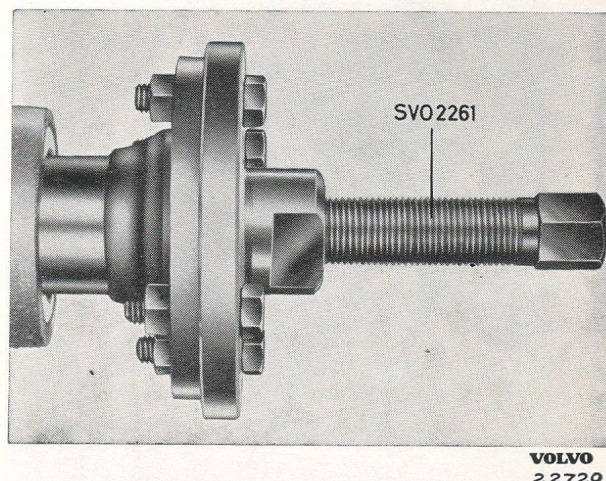
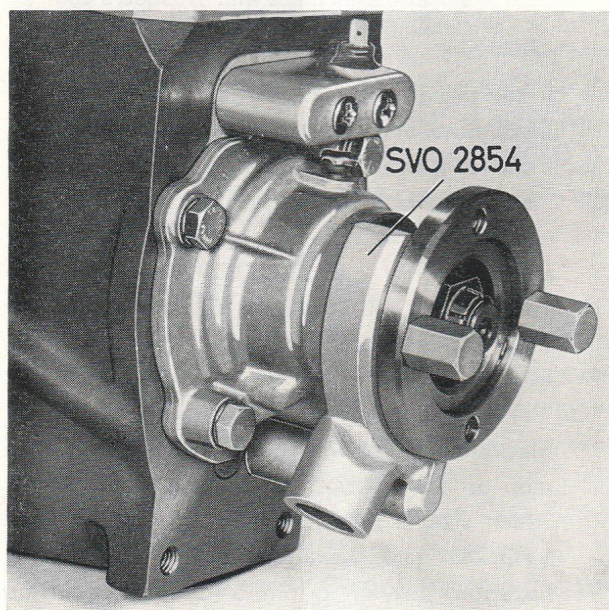

Fig. 16. Removing the yoke (flange)
Fig. 15. Counterhold for yoke (flange)
1. Carry out operations 1—4 (120) and 1—5 (140) under the heading "Removing" as far as necessary.
2. Slacken the yoke (flange) nut. Use SVO 2854 as a counterhold, see Fig. 15. Pull off the yoke (flange). Use puller SVO 2261 for flanges and SVO 2262 for yokes, see Fig. 16.
Unscrew the yoke (flange) nut. Use tool SVO 2854 as a counterhold, see Fig. 15. Pull off the yoke (flange). Use puller SVO 2261 for flanges and SVO 2262 for yokes, see Fig. 16.